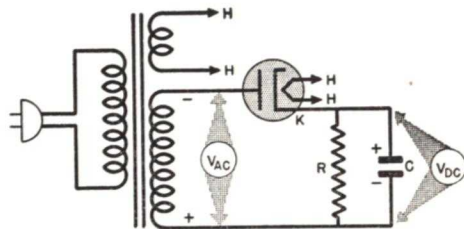

FIG. 27. The peak inverse voltage is the sum of the d.c. output and the peak a.c. input.
Fig. 27 shows a single diode connected through a load R to a high-voltage secondary. Once each half cycle the tube plate is positive (+), while the cathode (K) is negative (-), and once each half cycle the plate is negative (-) and the cathode is positive (+). When the diode passes electrons, the voltage across the tube is lower than $V_{a.c.}$ because of the